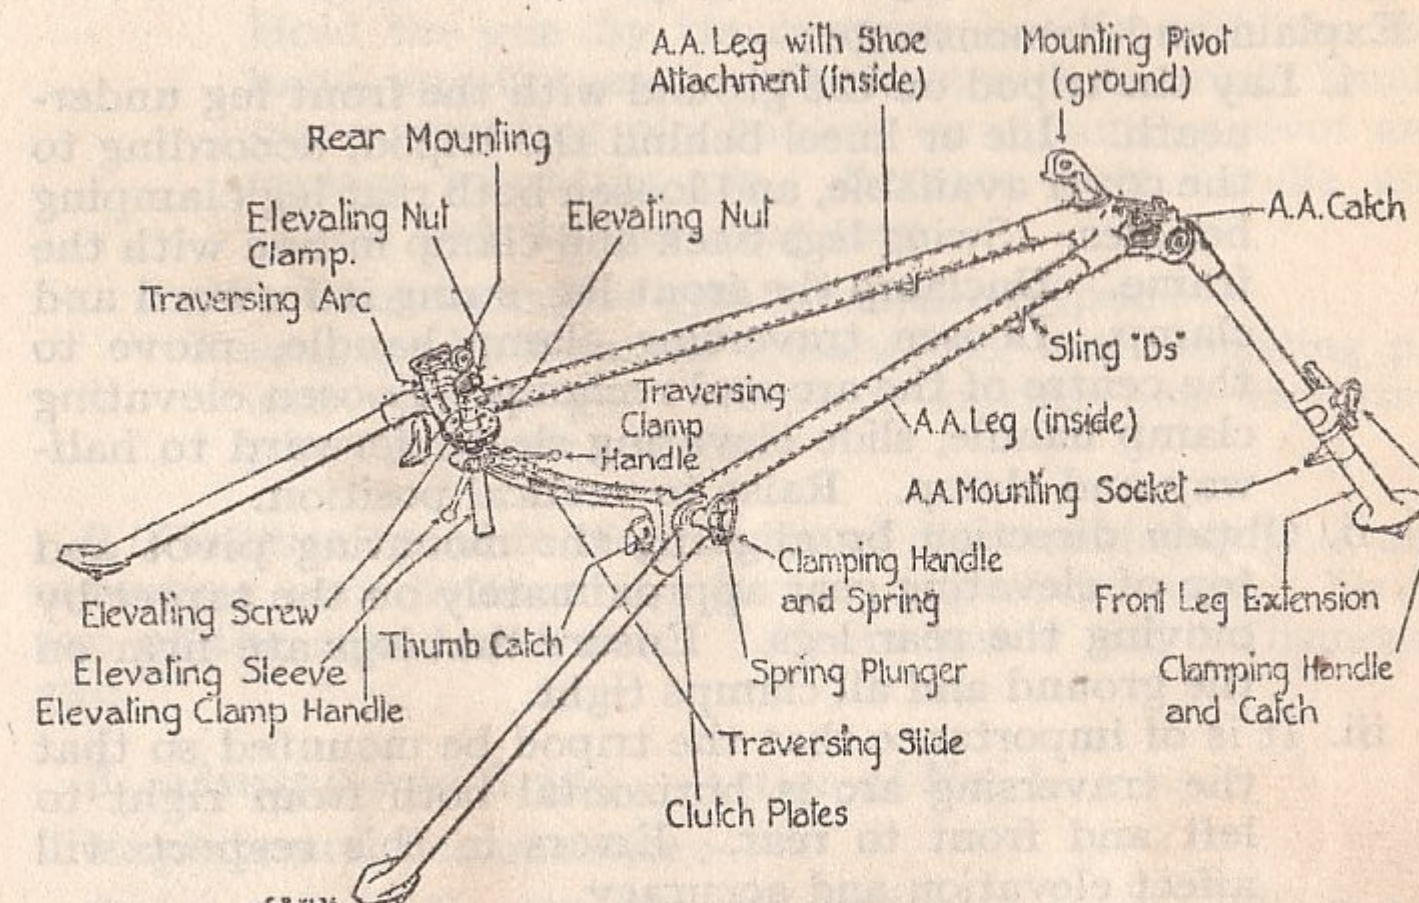

FIG. 11.—The Tripod (Ground).
2. **Description of tripod (ground)** (see Fig. 11).